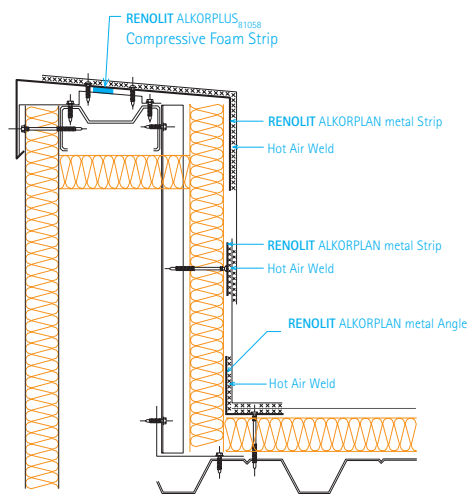

fig. 4: **RENOLIT ALKORPLUS₈₁₀₅₈** compressive foam strip
• With a **RENOLIT ALKORPLUS₈₁₀₅₈** compressive foam strip underneath the **RENOLIT ALKORPLAN** metal sheet trim, the parapet top is sealed against wind pressure (see fig. 4). The membrane is protected from an abrasive upstand surface by a **RENOLIT ALKORPLUS₈₁₀₀₅** protective layer (min. 300 g/m²). Where the parapet height exceeds 500 mm, intermediate support with a continuous **RENOLIT ALKORPLAN** metal sheet (50 mm wide) is required.